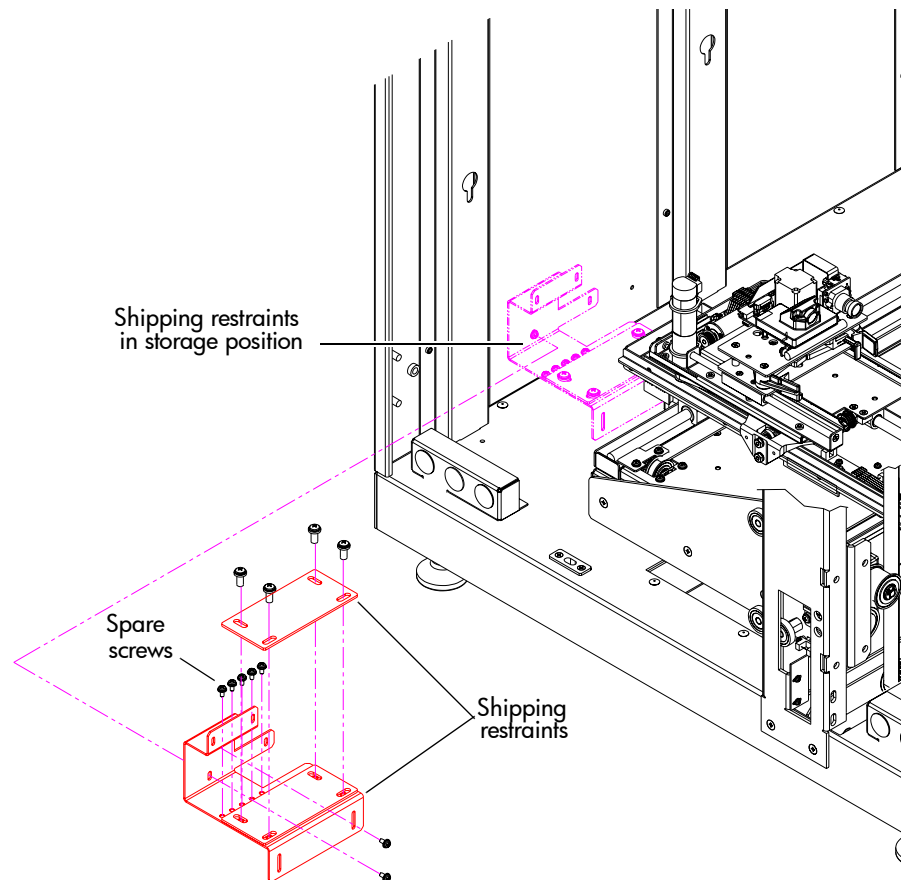

Figure 37: Shipping restraints - storage location
3. Remove the robot shipping restraints from their storage location under the left cartridge bin panel (see Figure 37).